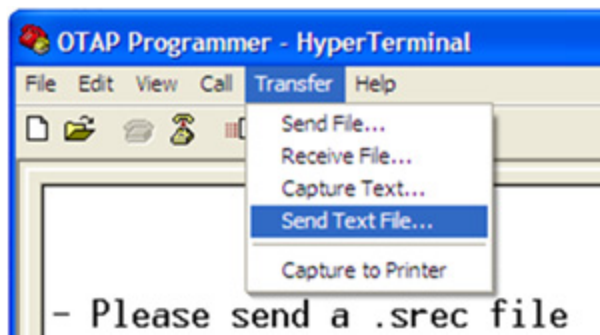

Figure 10-5. Send a Text (.srec) File to the OTAP Programmer
4. Press D to download a `.srec` file, then click on Transfer -> Send Text File as shown in Figure 10-5.